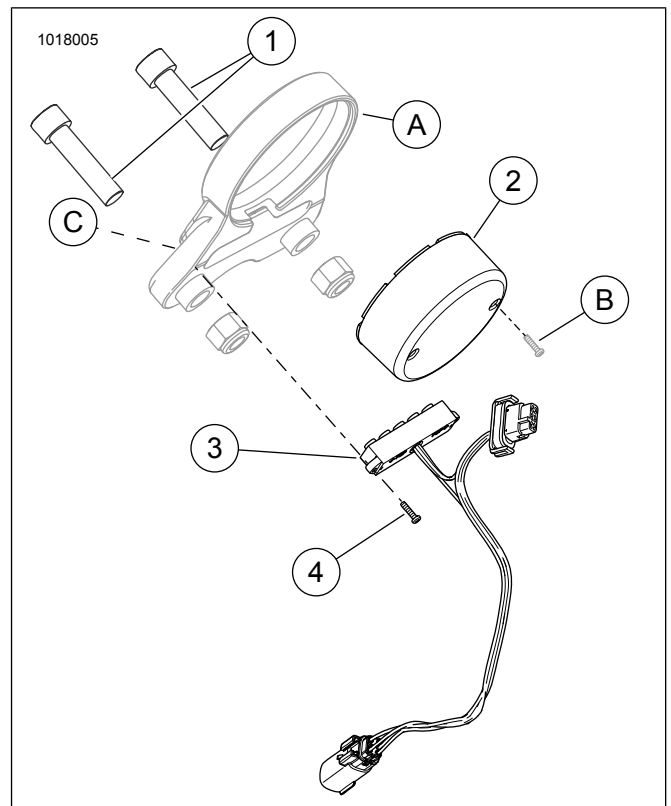

Figure 4. Additional Parts Required: 2014-Later XL1200C
1. See Figure 4 and Table 4. This application requires separate purchase of additional parts listed.
3. Connect **new** indicator lamp and harness assembly (4).
4. Install indicator lamp assembly (3) and bezel (C) into new speedometer bracket using **new** screws (4).
- a. Remove adhesive backing from **new** bezel (C).
- b. Adhere bezel to speedometer bracket (A) from the inside.
- c. Secure **new** indicator lamp assembly (3) and bezel using **new** screws (4).